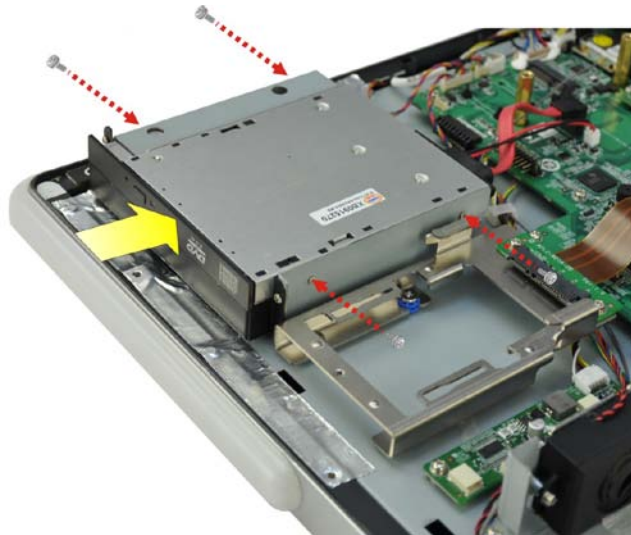

Figure 4-11: Secure the DVD-ROM
Step 3: Insert the DVD-ROM to the DVD-ROM bay and secure the DVD-ROM to the DVD-ROM bracket using four screws (two screws on each side). (**Figure 4-11**)